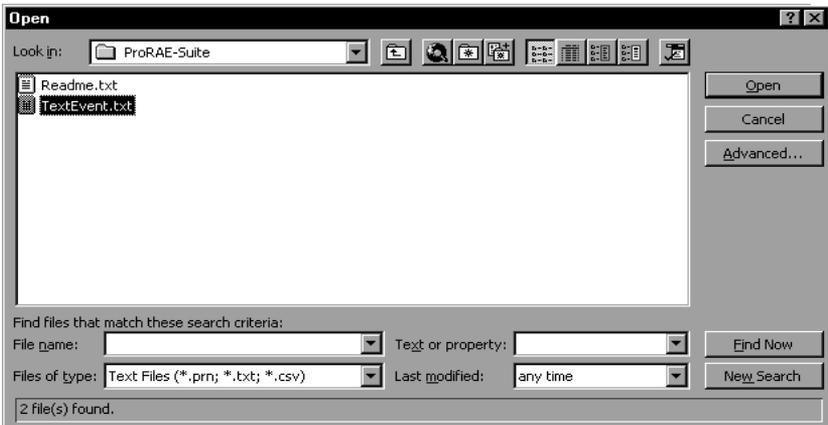

Figure C-2 Open Dialog Box
2. Click **File->Open** menu item to open the **Open** dialog box, select the folder where the file TextEvent.txt is resided, and select the **Files of type** as Text Files. Click to select the file TextEvent.txt, as shown in Figure C-2.